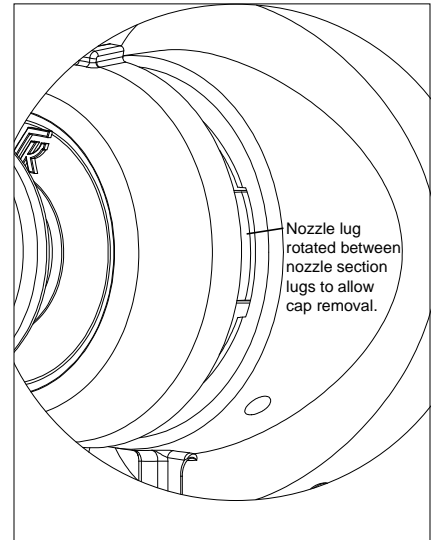

Fig. 6C
1. Insert the greased Cap/Nozzle assembly into the nozzle section outlet until the nozzle lugs are in line with the nozzle section lugs as shown in Fig. 6C.